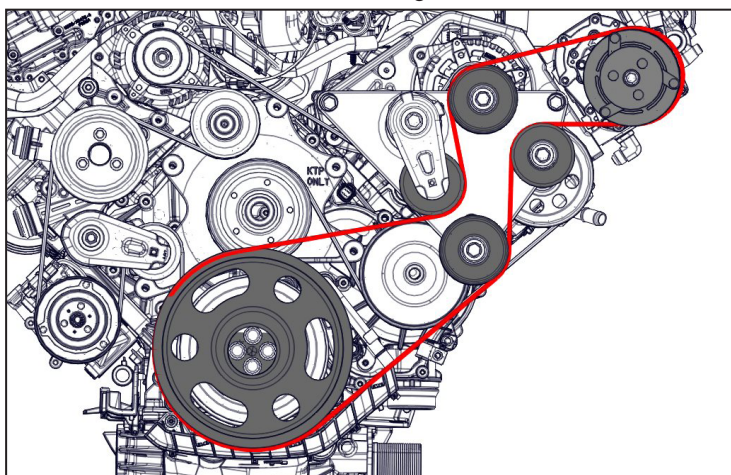

Figure 56 — VMAC belt routing
- ☐ Install and tension the VMAC drive belt (Figure 56).